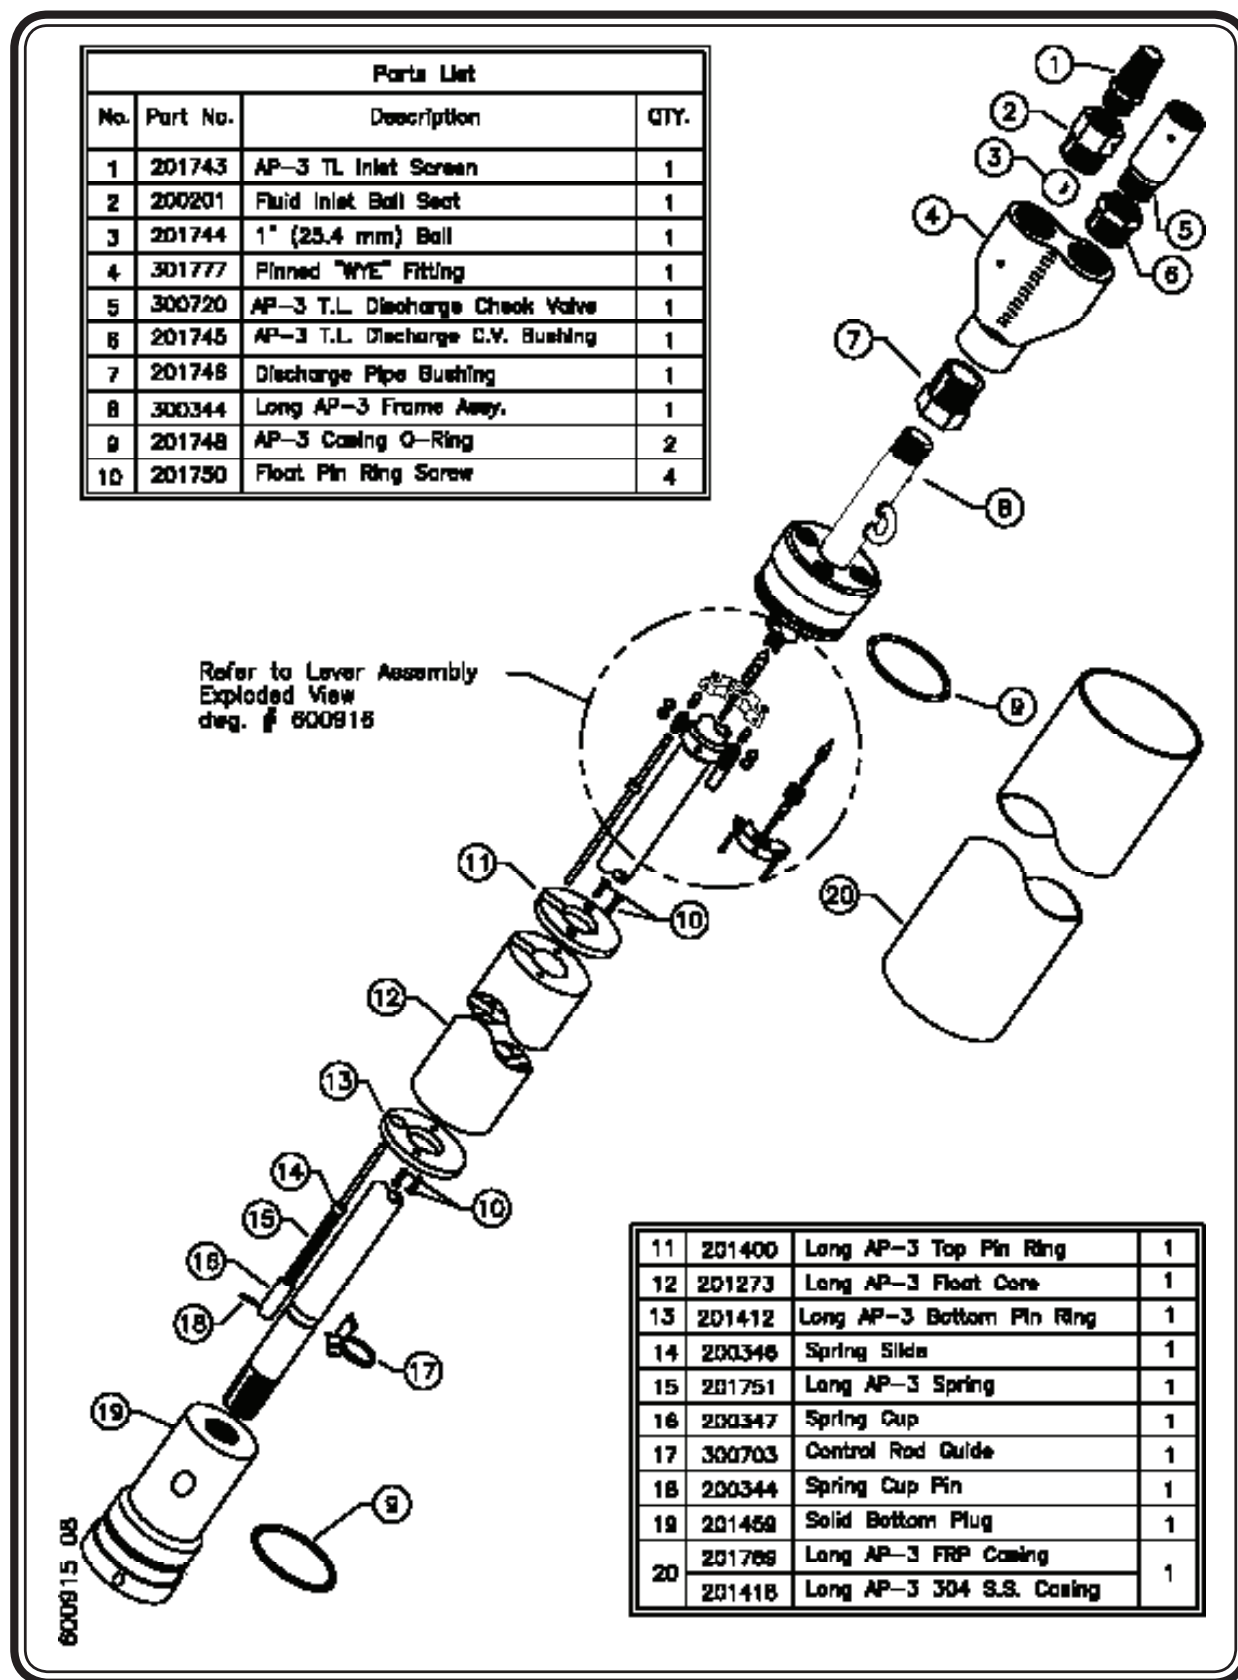
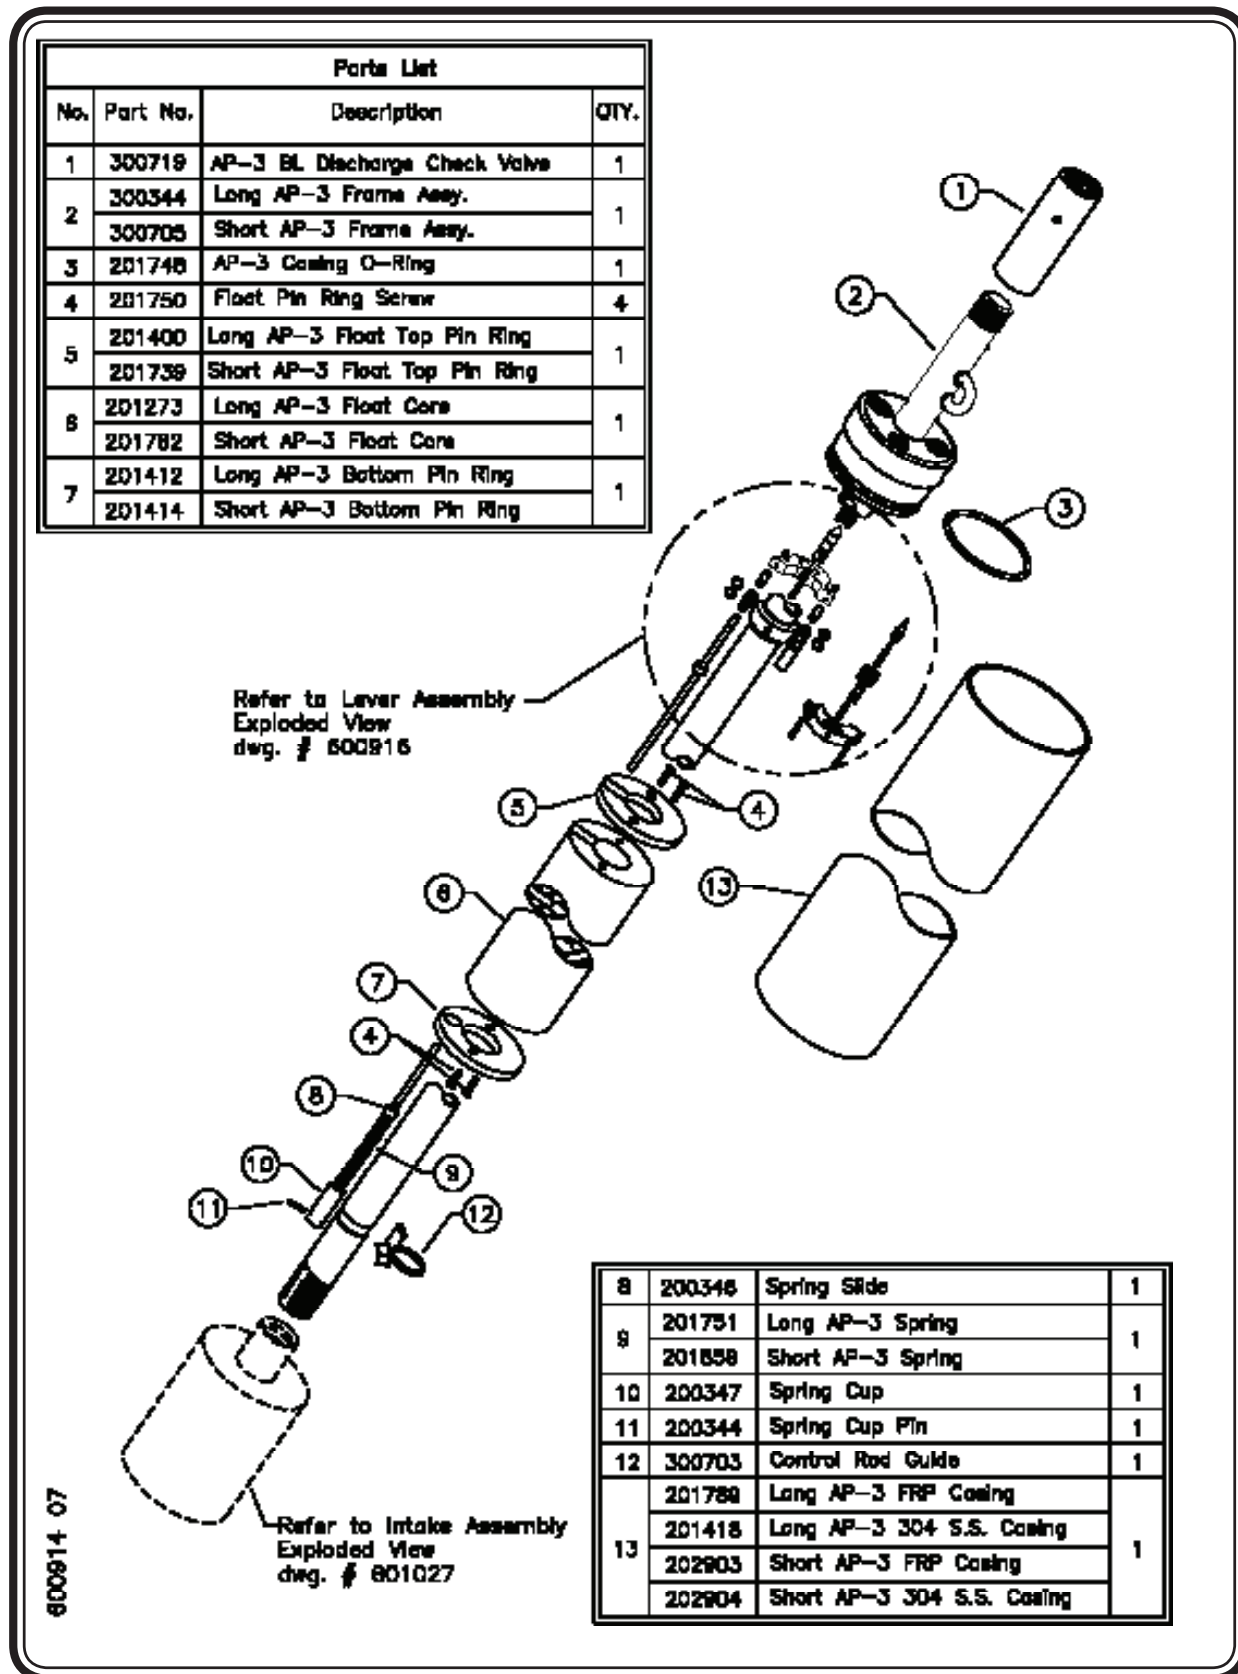

Figure 22 - Exploded View of a Top-Loading Long AP-3
Figure 23 - Exploded View of a Bottom-Loading (Long & Short)
The inner workings of the pump should now be exposed for inspection and cleaning. (See Figures 22 through 26)
- Remove the control rod guide. (See Figure 22 and Figure 23)
- Remove the small SS pin from the bottom spring cup “Stop”. The Stop is the small white part located just below the Spring identified on Figure 22 and Figure 23. The pin and Stop removal will allow you to remove the spring and float from the SS discharge pipe.